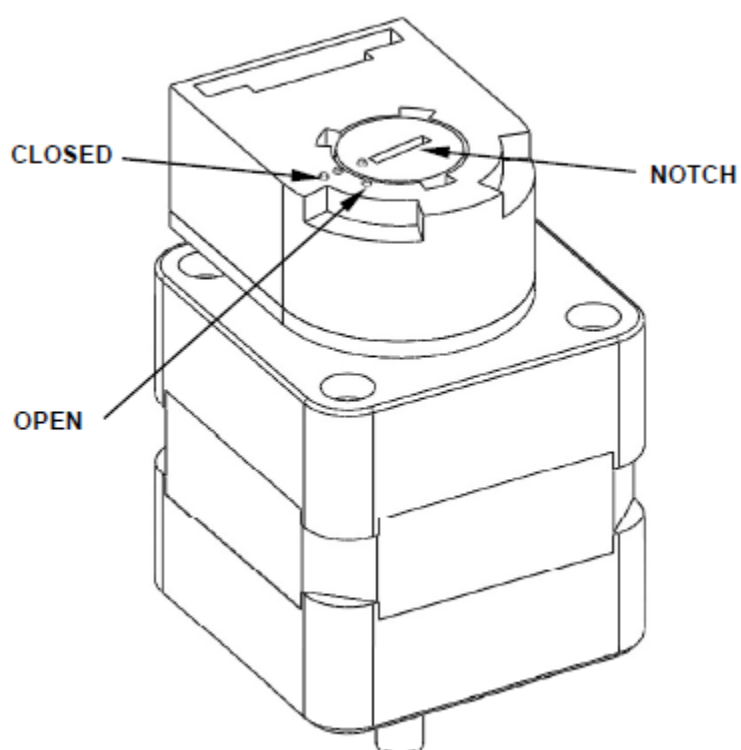

Figure P-14: Setting the Encoder Position
7. Rotate the encoder cover from the open to the closed position by inserting a small flat blade screwdriver into the notch and rotating (Figure P-14).